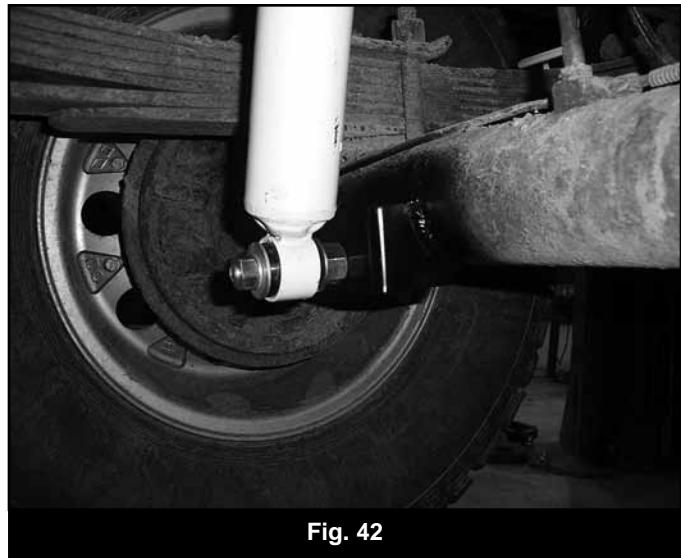

Fig. 42
32. Install the shock on the new stud and fasten with the provided hardware (Fig 42). Torque hardware to 40 ft-lbs.